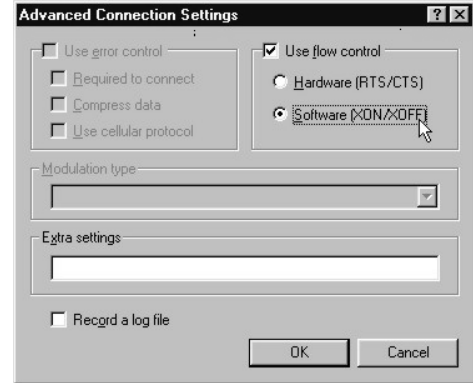

Figure 12 - Advanced Connection Settings
11. From the “Advanced Configuration Settings” select “Software (XON / XOFF)”. Click OK. (Fig. 12)